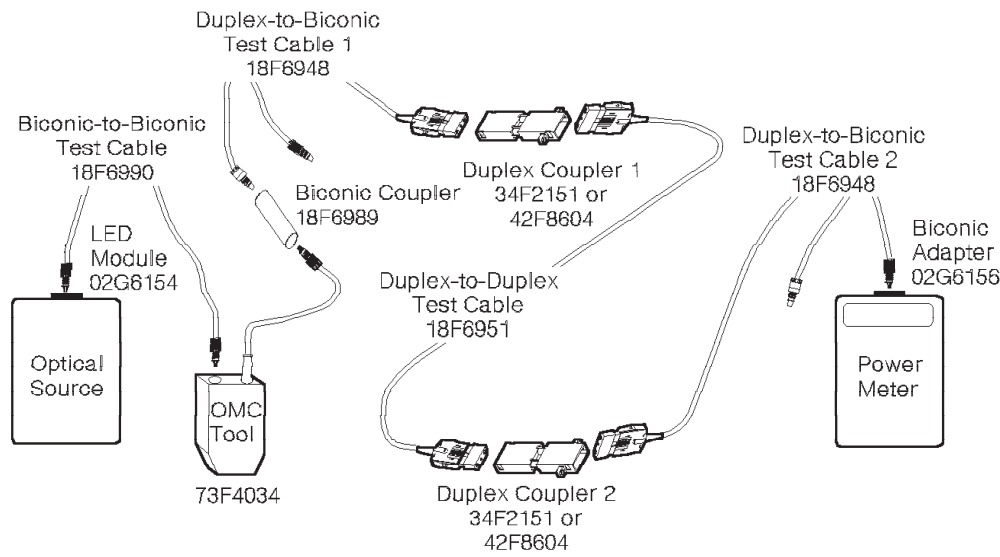
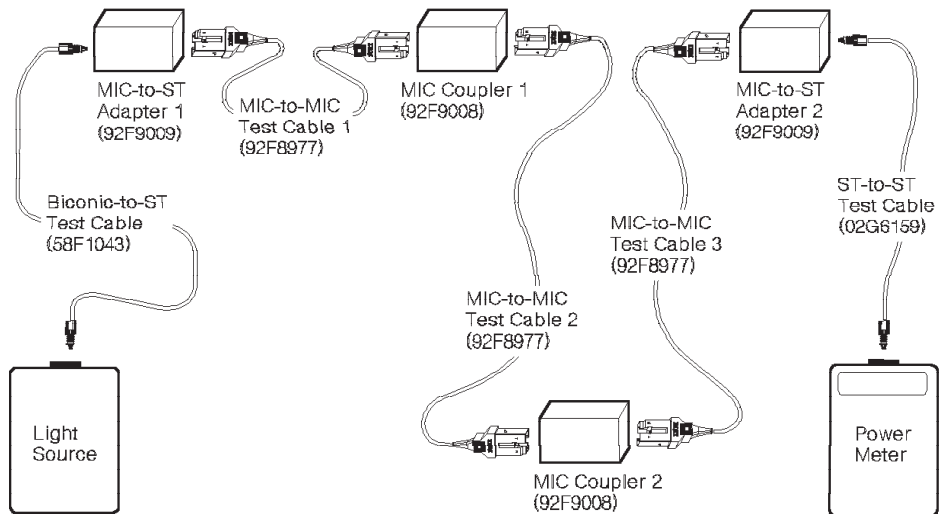
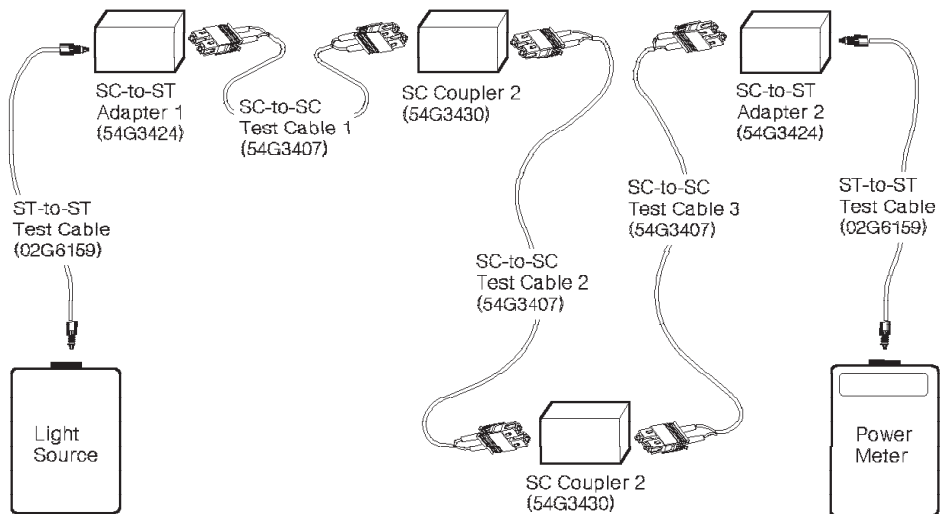

Figure 3-10. Obtaining **P1** for a Multimode Link
Figure 3-12. Obtaining the Link Loss Reference Level (P1) - FDDI
Figure 3-13. Obtaining the Link Loss Reference Level (P1) - ATM or FICON
3. Make sure all connectors are clean; then assemble the test equipment (see Figure 3-10 on page 3-31, Figure 3-12 on page 3-32, or Figure 3-13 on page 3-32).